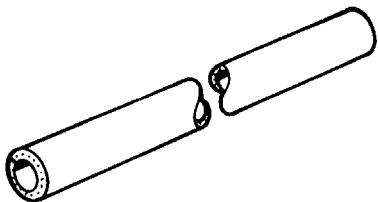

FIGURE 19
▶ To assure proper performance of an A-101/LT-A-101 system, the hose used must meet SAE 100 R5 or 100 R1 (minimum) hose specification. For underground mining applications, the hose must also be accepted by MSHA as flame resistant and marked as follows “Flame-Resistant, USMSHA No. _____” at intervals not exceeding 3 ft. (.9 m). Letters and numbers must be at least 1/4 in. (.6 cm) high and comply all other SAE requirements including an operating temperature of -65 °F to +250 °F (-54 °C to 121 °C). (*This number is assigned to the manufacturer after samples have passed the required tests. The number will be different for each manufacturer.) See Figure 19.